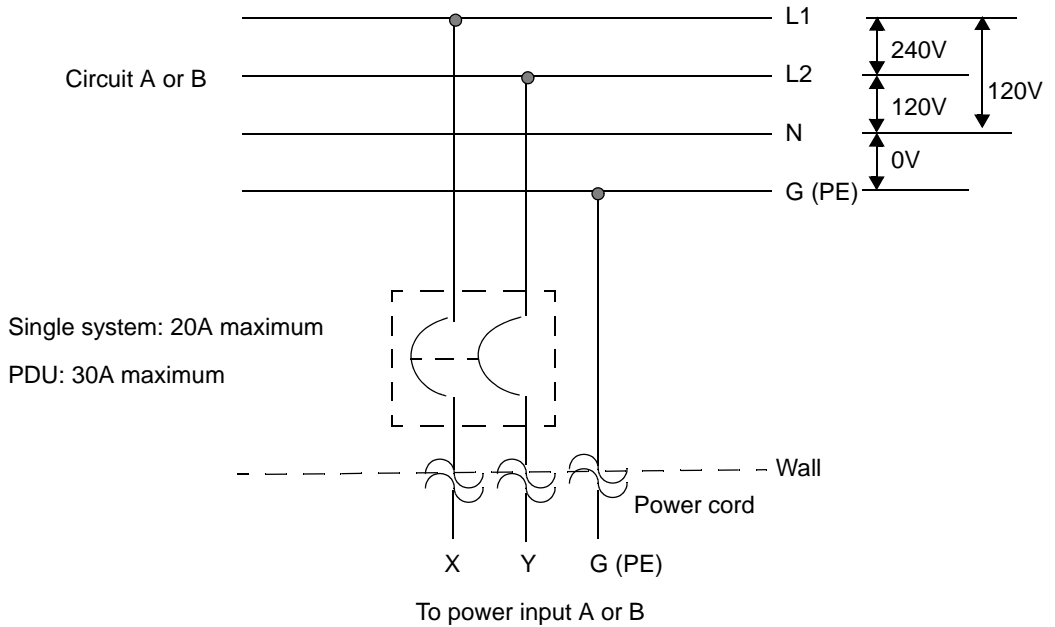

Figure B-4. Split-Phase 120/240 VAC Circuit Connection
- Figure B-4 illustrates a split-phase 240-VAC circuit connection.
Figure B-4 illustrates a split-phase 120/240-VAC circuit connection. Note that this application requires a double-pole circuit breaker.